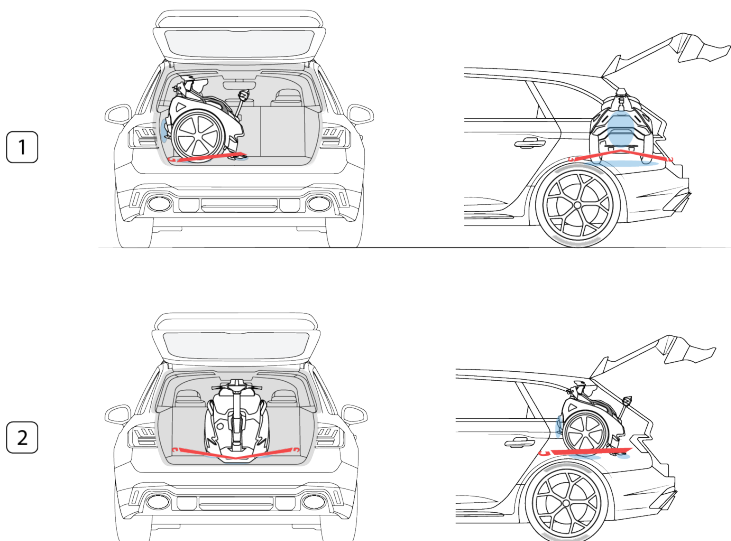

Figure 8.6 - Positioning and anchoring inside the luggage compartment
3. Anchor GENNY with straps in one of the positions shown in Figure 8.6 - Positioning and anchoring inside the luggage compartment.